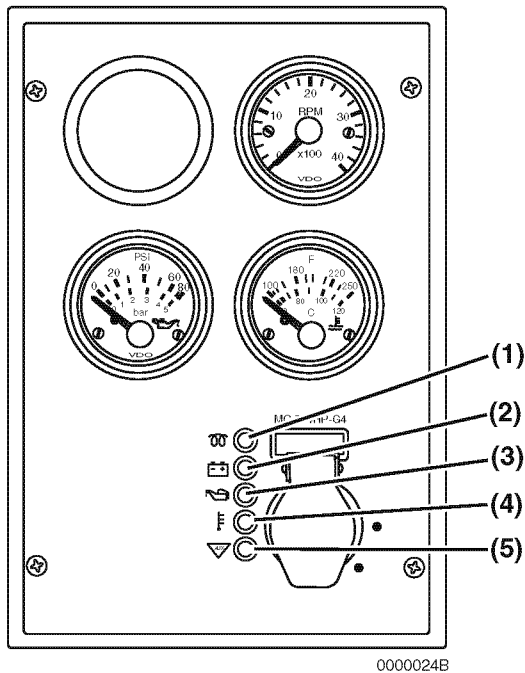
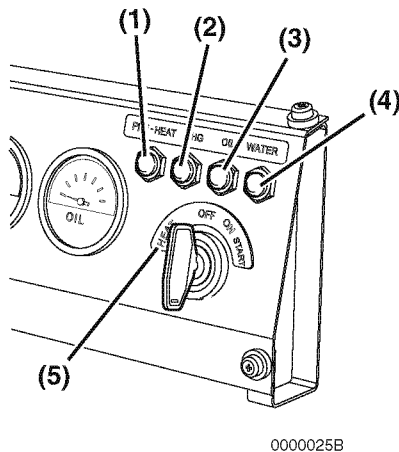

Figure 9
Figure 10
HEAT indicator (Figure 9, (1)) - The pre-heat function is automatically activated when the key switch is turned to the ON position. The indicator flashes for several seconds (4 sec. for IDI models with glow plugs, 15 sec. for DI models with glow plugs or air heater) and when it goes out you can turn the key switch to START.
HEAT indicator (Figure 10, (1)) - Note that on this type of panel you must turn the key to the HEAT position (Figure 10, (5)) to activate the inlet air heater or glow plugs. The indicator will flash for several seconds (4 sec. for IDI models with glow plugs, 15 sec. for DI models with glow plugs or air heater) when you turn the key to HEAT and when it goes out, you can turn the key switch to START.
Battery Charge (Figure 9, (2)) or (Figure 10, (2)) - This indicator will come on if there is a problem in the charging system. This indicator does not indicate if the battery is discharged. See *Troubleshooting Chart* on page 98.
Engine Oil Pressure (Figure 9, (3)) or (Figure 10, (3)) - This indicator will come on if the engine oil pressure is below or exceeds normal limits. See *Troubleshooting Chart* on page 98.
Engine Coolant Temperature (Figure 9, (4)) or (Figure 10, (4)) - This indicator will come on if the engine coolant temperature exceeds normal limits. See *Troubleshooting Chart* on page 98.
Auxiliary (Figure 9, (5)) - Used for special applications.